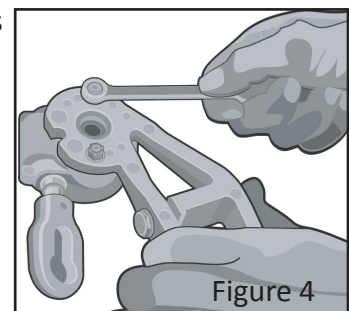

Figure 4
7. Using a 10mm wrench, loosen and remove the two bolts, washers and nuts that connect the Gear Assembly to the Roller Bracket. **NOTE: Observe the orientation of the gear assembly to the roller bracket.** See Figure 4.